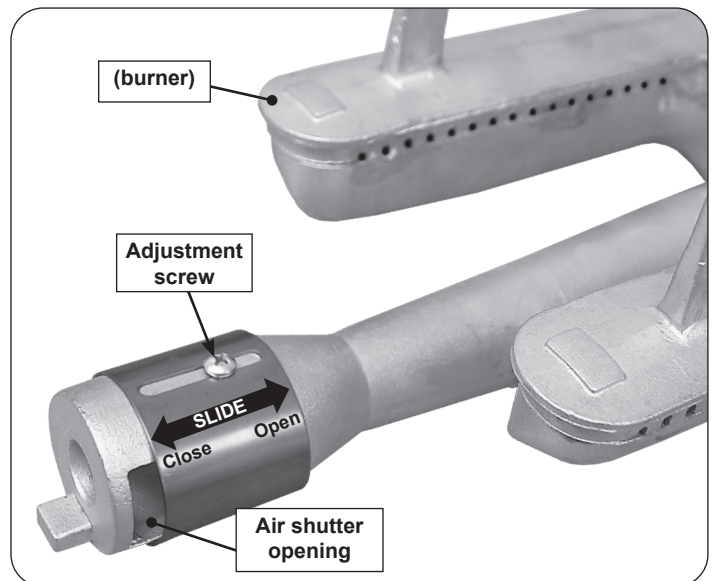

Fig. 51-2 Main burner air shutter adjustment detail
1. To adjust the air shutter, loosen the adjustment screw with a Phillips screwdriver. Then slide the shutter to open or close it. See Fig. 51-2 for details.